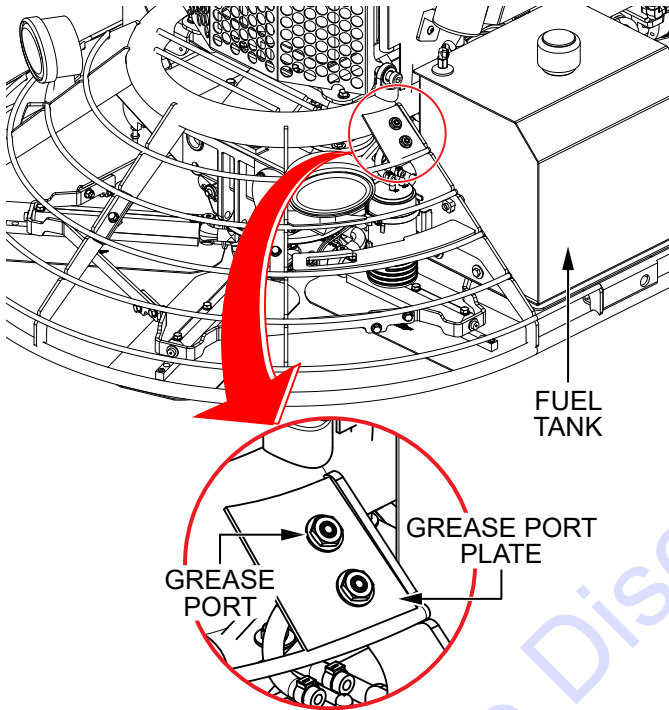

Figure 37. Pillow Block Bearing Lubrication
1. Locate the grease port plate (Figure 37) at the rear of the trowel, just to the left of the fuel tank. These two grease ports lubricate the pillow block bearings.